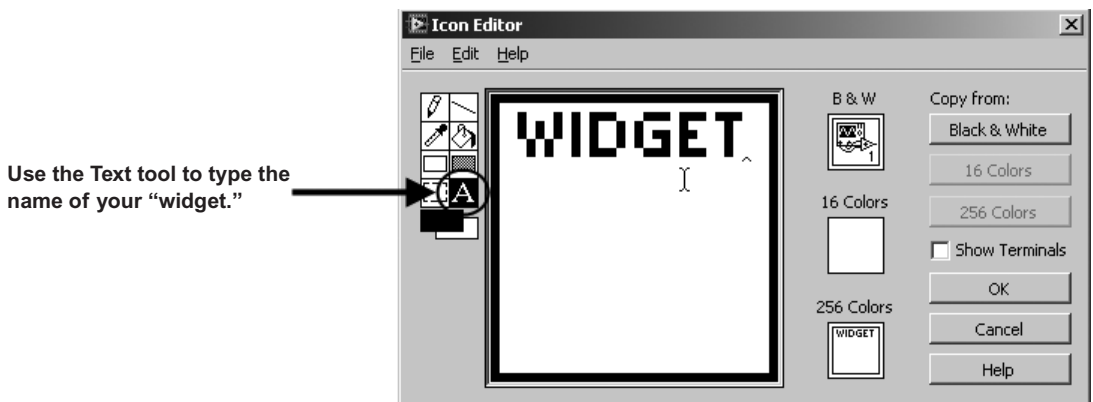

Figure 5.17
2. Select the Text tool. If you are on Windows, we recommend you use the font named "Small Fonts" and 8-point font size. You can double-click the Text tool to open the Text Tool Font dialog to make this selection. Place the cursor anywhere in the icon canvas and type "WIDGET" (in all uppercase letters). After typing this text, and before you change tools or click the mouse anywhere, reposition the text by pressing the arrow keys (up, down, left, and right) to position the text, as shown in Figure 5.17. See how the text moves? (Note that it is usually easier to position the text with the arrow keys, after inserting it, than it is to perfectly place the text cursor before typing.)